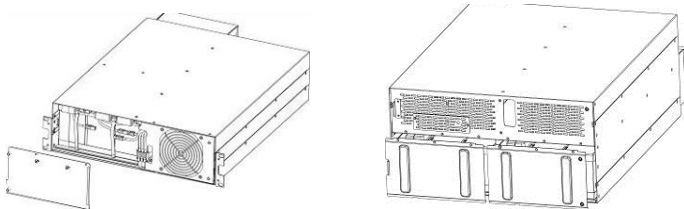

Figure 8: Battery cover of the XANTO S 6000 and 10000
5. Remove the battery cover of the batteries (see Figure 8)